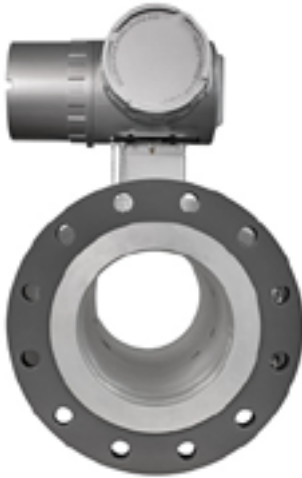

Figure 10: **Sentinel LCT8** mounting flange
3. Align the flange mounting holes as shown in *Figure 10* below.